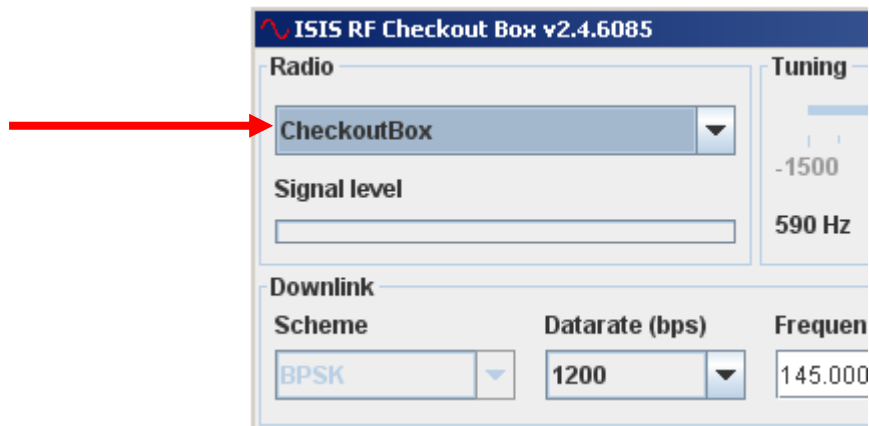

Figure 5-9 Select radio
3. Select **CheckoutBox** from the Radio tab (please refer to section 5 and Figure 5-9 for further details). Please give time to the application to load the firmware on the radio (it generally takes about 30 seconds).